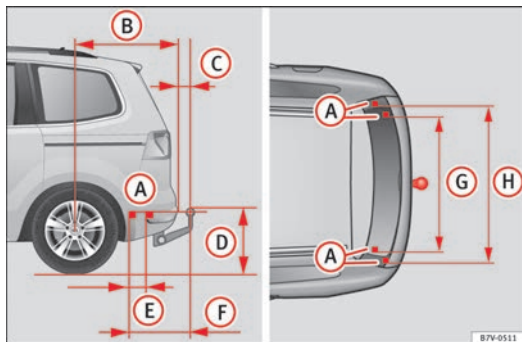

Fig. 159 Measurements and attachments to retrofit a tow hitch
In any case, the separation distances must be observed when fitting a tow hitch. The distance between the centre of the tow hitch ball and the road surface ⇒ Fig. 159 (D) must never be lower than that indicated. This also applies when the vehicle is fully laden, including maximum drawbar load.
Separation distances ⇒ Fig. 159: